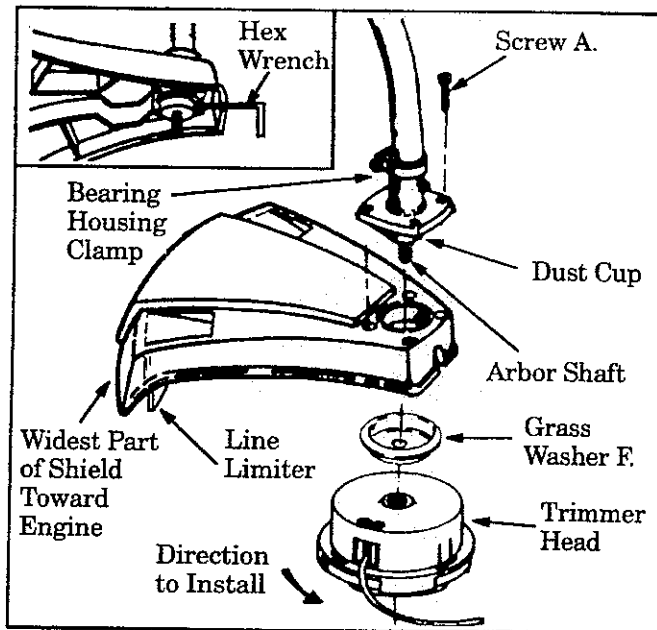

Figure 2
Failure to install shield in the position shown in Figure 2 can result in serious injury to the operator. The length of the shield must be aligned with the length of the drive shaft housing. Direct the widest part of shield toward the engine.
1. Place the shield under the bearing housing and align screw holes. Figure 2.
2. Insert screws "A." through the bearing housing into the shield. Figure 2.
5. Install grass washer "F." over the arbor shaft. Make sure the grass washer is against and curved over the dust cup. Figure 2.
6. Start threading the trimmer head onto the arbor shaft as shown in Figure 2.
7. Align the hole in the dust cup with the hole in the center front of the bearing housing by turning the dust cup. Then, insert the small hex wrench (provided) into the aligned holes to keep the arbor shaft from turning. Figure 2 (inset).